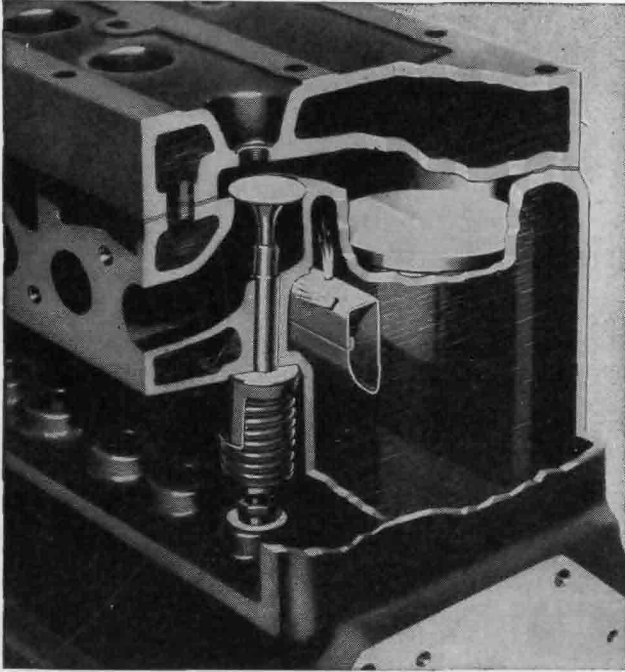

FIG. 13-5. Use of water-distributing tube to cool valves. (*Pontiac Motor Division of General Motors Corporation*)
FIG. 13-6. Water-distributing tube (1) being pulled by hook (2) from cylinder block. This tube, similar to the one shown in Fig. 13-5, has holes properly spaced to provide adequate cooling of valve seats. (*Plymouth Division of Chrysler Corporation*)
flow of the cooling water as it enters the water jackets from the radiator. Valve seats and guides must be kept within a safe temperature range, and, by directing a flow of cooling water at them through distributing tubes and nozzles, they are adequately cooled (Figs. 13-5 and 13-6).